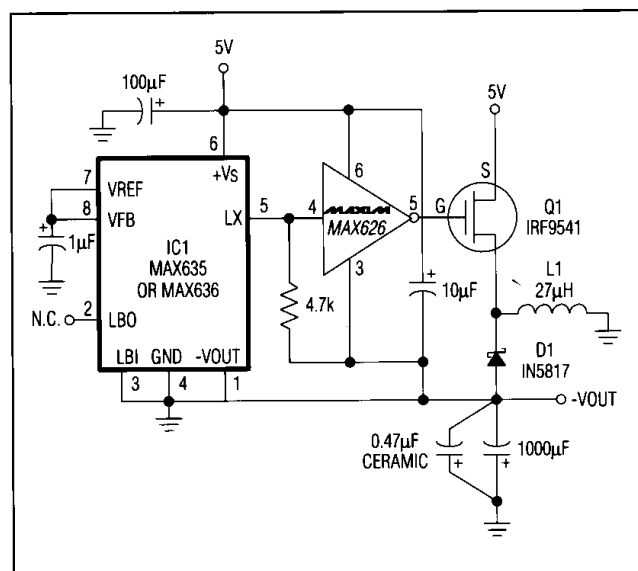

Figure 4. Medium Power Inverter
In the circuit of Figure 4, the MAX626 MOSFET driver is used to convert the open drain LX output to a signal suitable for driving the gate of an external P-Channel MOSFET. The IRF9541 has a gate threshold voltage of 2V to 4V so it will have a relatively high resistance if driven with only 5V of gate drive. To increase the gate drive voltage, and thereby increase efficiency, the negative supply pin of the CMOS inverter is connected to the negative output rather than to the ground. Once the circuit is started, the gate drive swings from +5V to -VOUT.
**Table 3. Component Selector for Medium Power Inverters (Figure 4)**